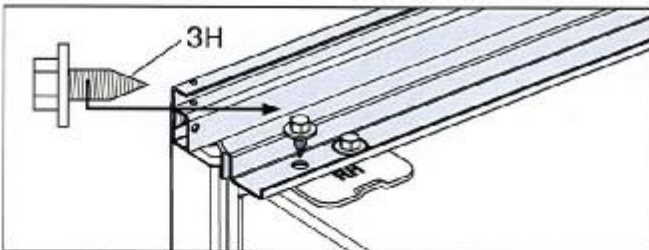

Figure 11.
9. a. Remove outer hinge screw common on both sides for a dual installation, (for a single installation this screw is removed in Step 6. Align the top trim and attach with a 3/8" socket. Repeat for opposite side. (See Figure 11).